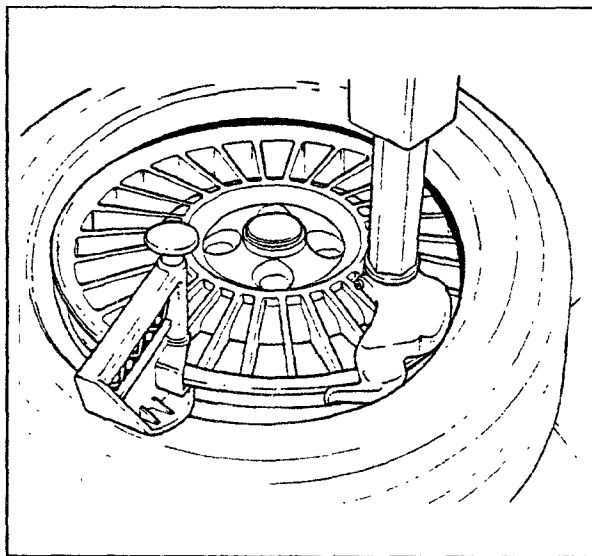

Fig. 18
C. Mount the upper bead following the directions in section B. With low profile tires the bead depressor tool (OPTION #4003444) Fig. 18 can help to ease the mounting of the top bead.